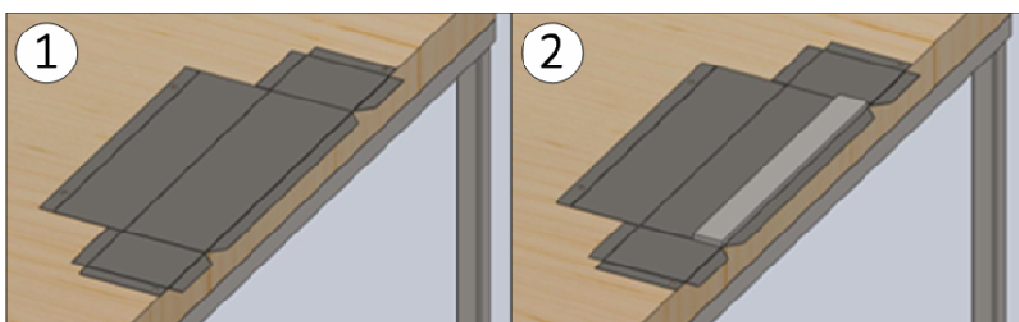

Figure 4: Setting up for Bend #1- (1) Align the bend line with the edge of the table. (2) Align the Bending Bar with the bend line and the edge of the table.
- A. Place work piece onto the work table and align the bend line drawn in the previous step with edge of the table as shown in Figure 4.
- B. Place the **Bending Bar** as shown in Figure 4, aligning the edge of the bar with the bend line.